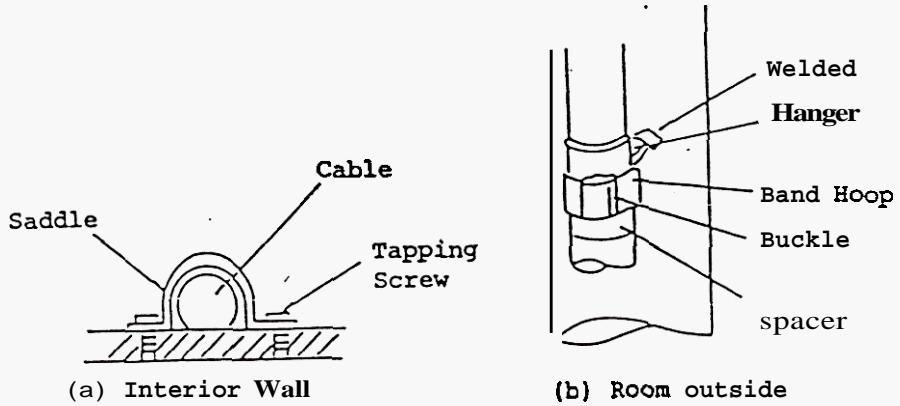

Fig. 5-17 Fastening Cable to Bulkhead or Structural Member
4. Exposed cable must closely follow surfaces of the ship's structural members or bulkheads'and be secured at about **40** cm intervals by approved saddles as illustrated in Fig. 5-17 (a) and (b) .